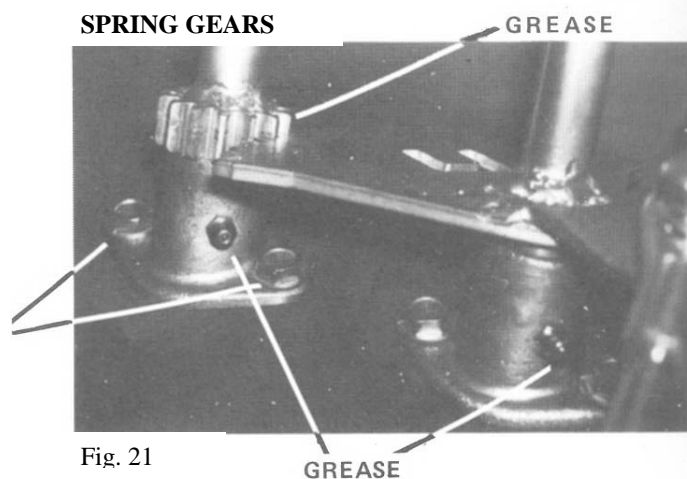

Fig. 21
- Grease nipples on steering pivot blocks Fig.21
- Steering gears Fig. 21